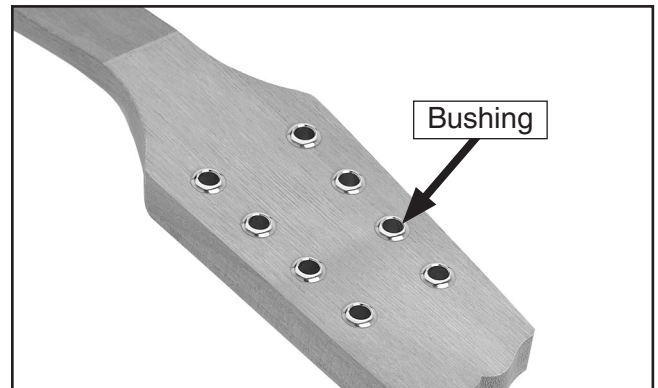

Figure 35. Peghead bushings.
1. Place the eight bushings in the pegholes as shown in **Figure 35**.